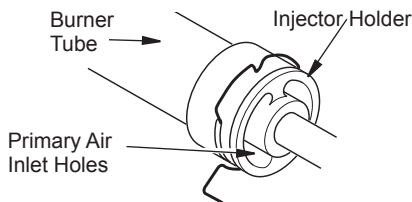

Figure 45 - Injector Holder On Outlet Burner Tube - Rear Burner
2. Inspect burners, pilot, and primary air inlet holes on injector holder for dust and dirt (see Figures 45 and 46).